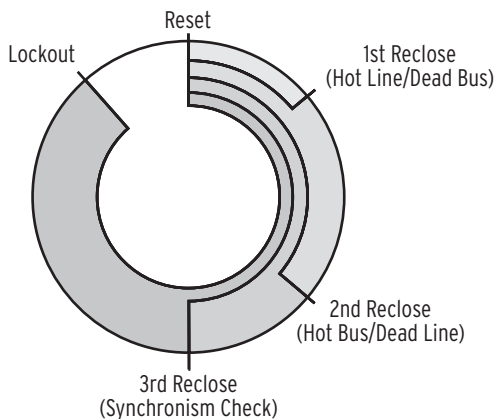

Figure 13 Motor-Driven Reclose Timer
- Emulate a motor-driven reclose timer, including stall, reset, and drive-to-lockout conditions (refer to Figure 13).